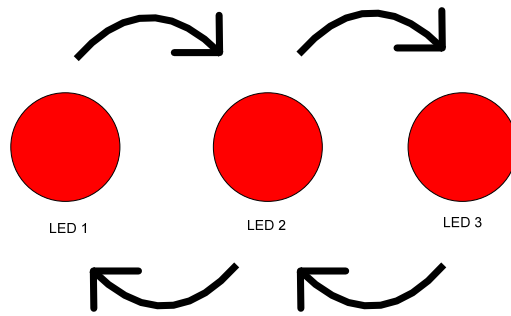
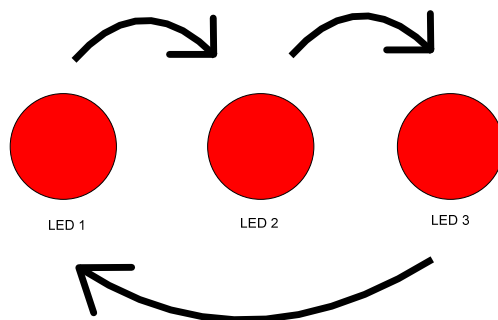

Figure 5: Pattern 1
Figure 6: Pattern 2
- (c) Create a program of pin configuration for push buttons (PB) and LEDs at PORT A and PORT C. (4 marks)
- (d) Based on **Figure 5** and **Figure 6** create a main program of LED blinking pattern 1 and pattern 2. Pattern 1 will be blinked if PB1 is pressed and pattern 2 will be blinked if PB2 is pressed. Call function delay_ms(100) for delay. The header file should be as follows: